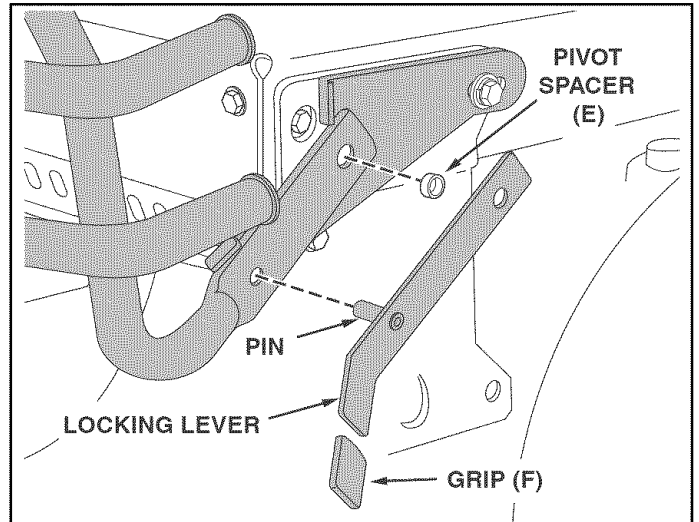

FIGURE 5
**STEP 5: (SEE FIGURE 5)**
- Assemble plastic grips (F) onto locking levers.
2. Insert pivot spacers (E) into rear holes in bumper.